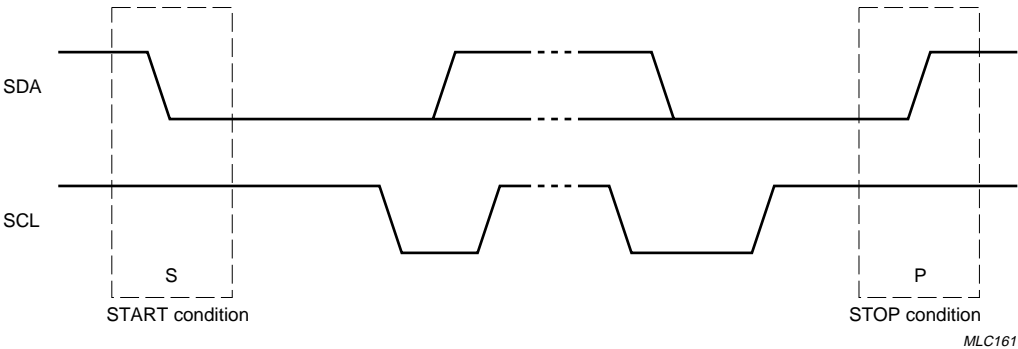

Fig.8 START and STOP conditions.
Both data and clock lines remain HIGH when the bus is not busy. A HIGH-to-LOW transition of the data line, while the clock is HIGH is defined as the START condition (S). A LOW-to-HIGH transition of the data line while the clock is HIGH is defined as the STOP condition (P) (see Fig.8).